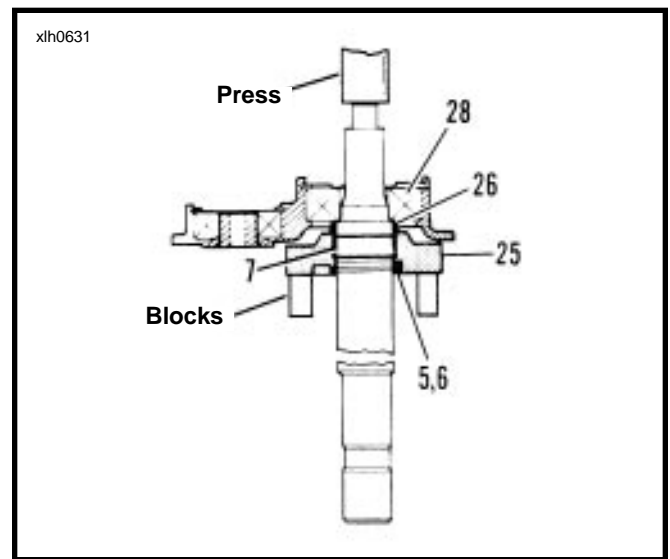

Figure 6-27.
11. See Figure 6-27. Place mainshaft and access door assembly on arbor press with support under mainshaft 4th gear (25). Press on end of shaft until mainshaft is free of access door bearing. Remove spacer (26), mainshaft 4th gear (25) and split bearing (7).
12. Remove thrust washer (6). Expand and remove remaining retaining ring (5).